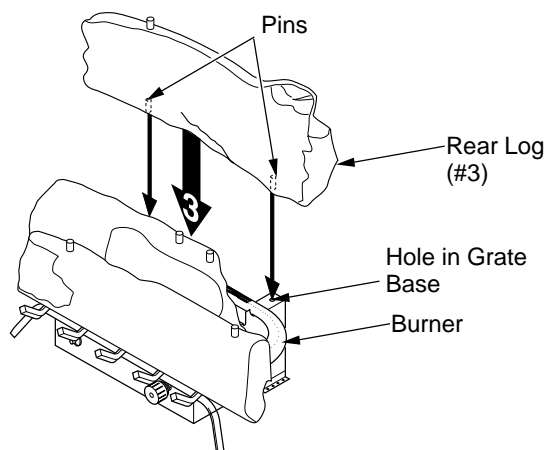

Figure 26 - Installing Rear Log #3 (CCL3930PTB/NTB Shown)
3. Locate pins on the bottom of back log (#3). Slide these pins into the holes in the grate base behind the burner (see Figure 26).